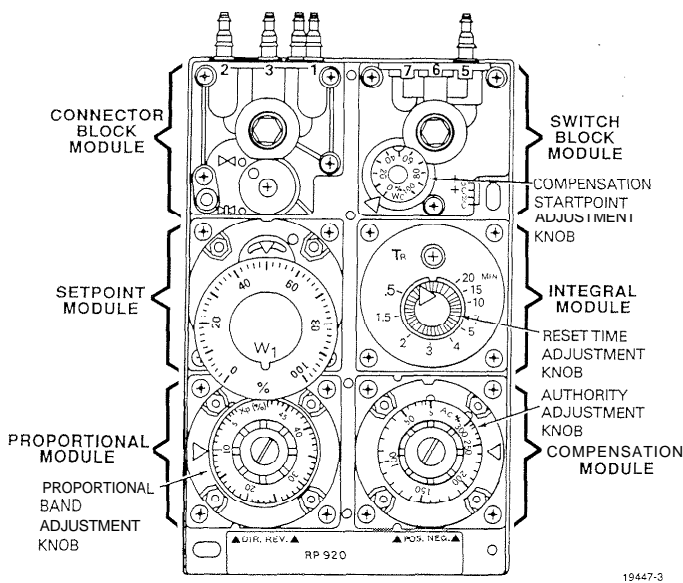

Fig. 14. RP920 Adjustment Locations.
Adjust the Proportional Band (PB) according to the job drawings with the proportional band adjustment knob (Fig. 14).
Adjust the authority according to the job drawings with the authority adjustment knob (Fig. 14). Calculate the authority setting as follows:
Adjust the compensation startpoint according to the job drawings with the compensation startpoint adjustment knob (Fig. 14). If the startpoint is not in percent, convert it to a percentage of the compensation sensor range. See APPENDIX A.
Adjust the reset time according to the job drawings with the reset time adjustment knob (Fig. 14). When the system is in operation and stable, decrease the setting a little at a time until the system becomes unstable. Increase the setting slightly until the system becomes stable.